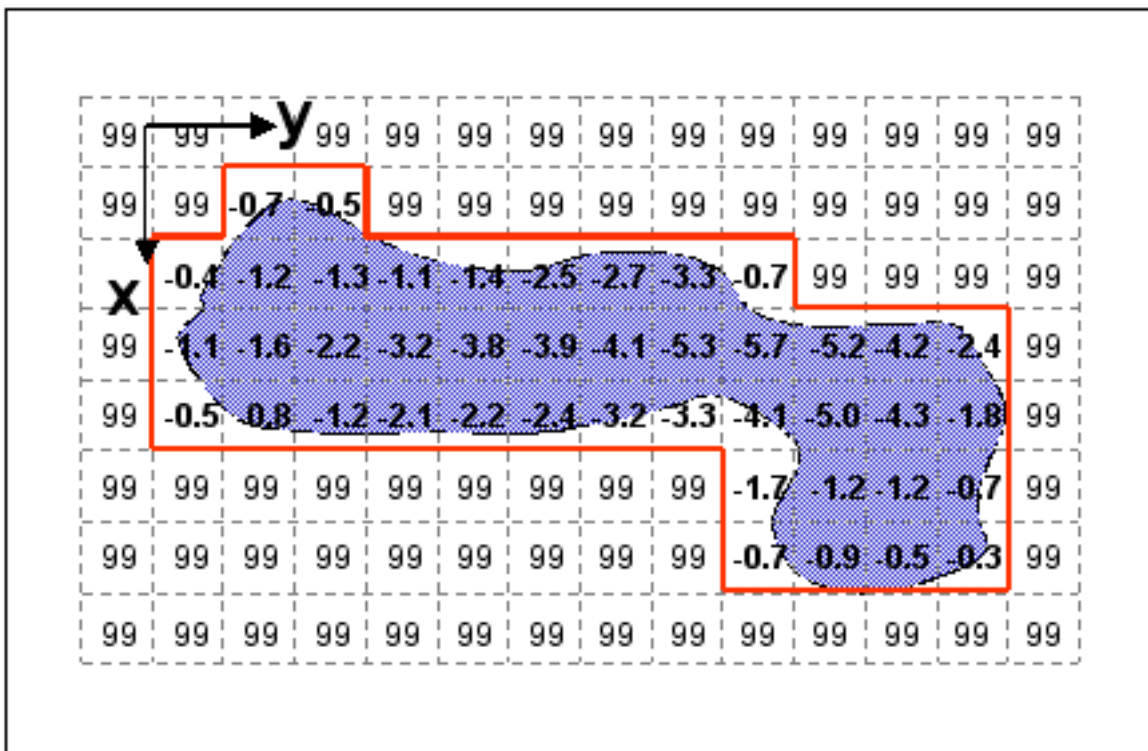

Figure 3. Plan view of bathymetry data
Figure 3 shows the *physical* space outline of the lake as the border of the shaded area. The discrete outline of a lake is shown with a heavy solid line. In developing a `bathymetry.dat` file for an ELCOM simulation, the user is required to provide bathymetry values (i.e. vertical distance measured from the user's $z=0$ baseline) for each of the cells within the discrete boundary of the lake. The region outside the lake boundary is defined as the "land" region. In Figure 3, the cell center dots have been replaced with numbers that represent the distance from the user's $z=0$ baseline to the bottom of the lake. In this case, all of the "land" regions have been given a value of 99. Note that the boundary of the bathymetry data set shown in Figure 3 has land values around the entire boundary. In general, it is required that either a land cell or open boundary cell is required around the outside of the bathymetry data. For the purposes of the `bathymetry.dat` file, the user must provide bathymetry values for *all* cells in a rectangular array, including those cells that only contain land. ELCOM will only reserve computational memory for (1) the cells which may contain water, and (2) the first layer of land cells surrounding the water cells.